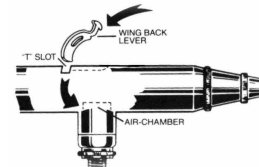

Figure 1
- 2). Insert winged back lever (50-042) into "T" slot at top of airbrush body and move forward (fig 1). Make sure back lever is behind the air chamber (as shown in fig 2). Screw in tube shank and entire assembly.
The exercise shown in fig. 1 is accomplished by practicing the triggering technique explained on page 3. Pull back slightly on the trigger, while air is on, to create a fine line. Approximately half way through your stroke motion push trigger forward to discontinue paint flow. While continuing your stroke motion slightly pull trigger back again to re-create your fine line pattern. This exercise will enable you to draw straight lines without forming dots or puddles at the beginning and end of each line. Fig. 2 is parallel line graduating from narrow to broad. These are made by releasing more color and at the same time, lifting the airbrush away from the surface. Practice daily to develop trigger action control. Fig. 3, layout in pencil 1/2 inch squares. Airbrush the dots as small as possible and connect dots with straight lines of even tone. Practice every lesson carefully before proceeding to the next one.